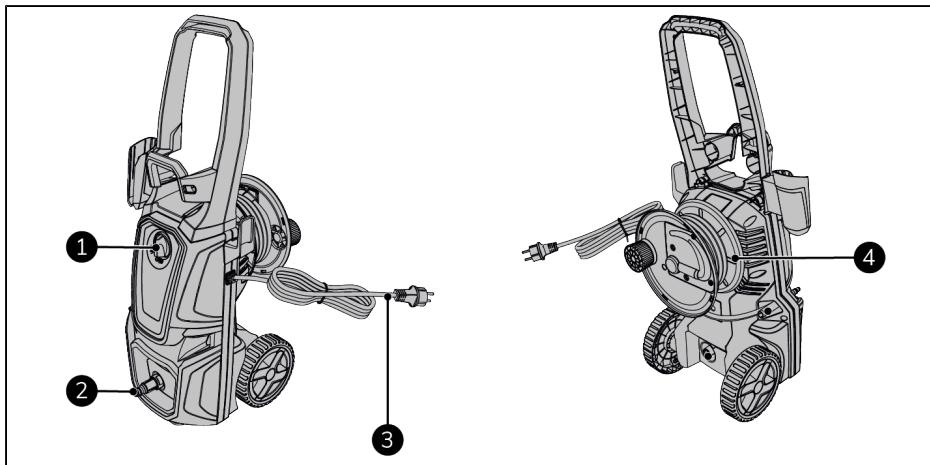

Figure 30.
2. Make sure the ON(I)/OFF(0) switch is in the OFF(0) position (Figure 30, pos. 1).
3. Place the power plug (Figure 30, pos. 3) into a socket that is easily accessible.
4. Unroll the high-pressure water hose from the hose reel (Figure 30, pos. 4).
5. Connect the water supply to the device (Figure 30, pos. 2).